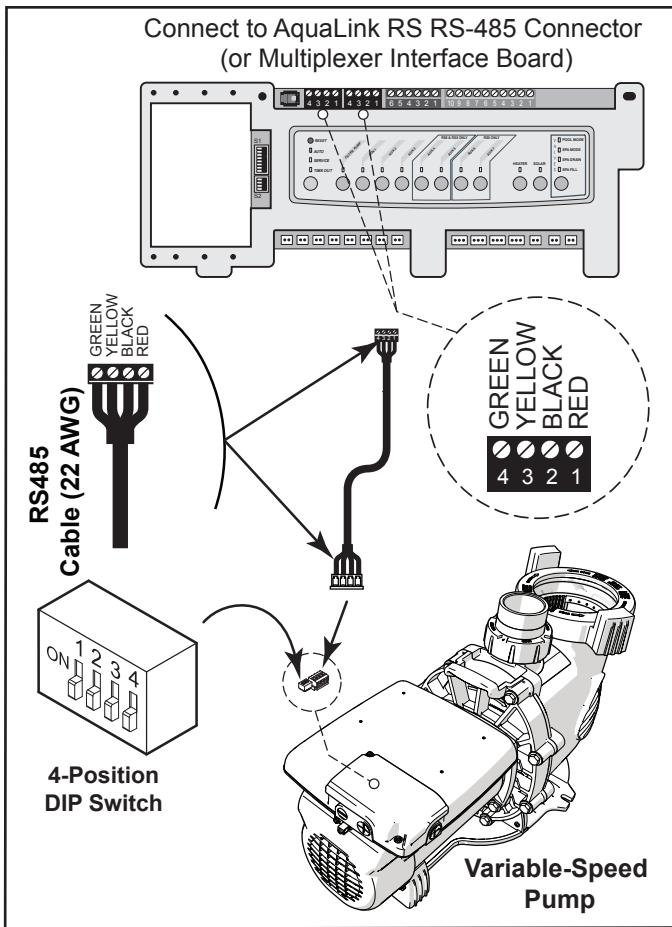

Figure 5. Wiring AquaLink RS, PDA or Z4
- Dip switches 1 and 2 need to be in the OFF position. See “Figure 5. Wiring AquaLink RS, PDA or Z4”.
- Connect the new RS-485 cable from the AquaLink through the available compression fitting and route the 4-conductor cable through the motor drive threaded port closest to the connector. See “Figure 5. Wiring AquaLink RS, PDA or Z4”
- Connect the other end of the cable to an RS-485 connector on the AquaLink RS (or multiplexer interface board), matching wire colors with connector positions See “Figure 5. Wiring AquaLink RS, PDA or Z4”
As shown in Figures 5 and 6 the 4 position dip switch serves two (2) functions: it selects the pump address, and it determines what type of controller will be used with the pump.
See Figures 5 and 6 for compartment's location details. An access cover with Phillips-head screw must be removed before proceeding.